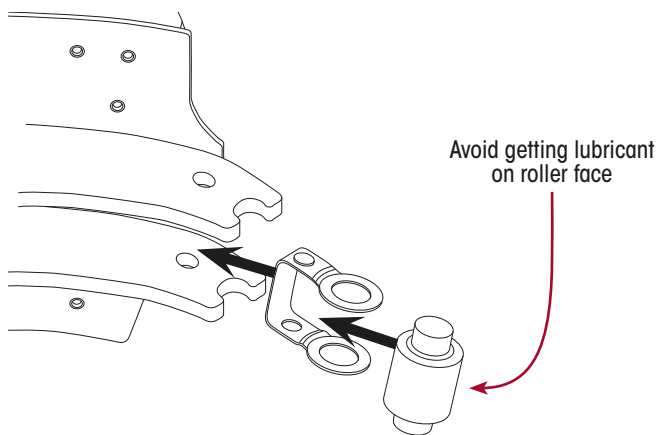

Figure 51: Brake Shoe Roller & Clip Installation
2. Lubricate roller ends with anti-seize compound, insert roller onto spring clip and install roller assembly into brake shoe. Refer Figure 51.